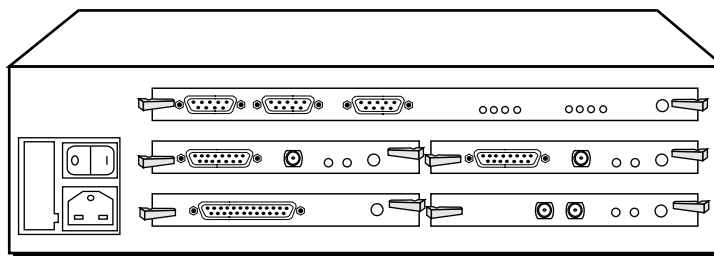

Figure 2-4 HSS G.703 Module Board Installed
- 3 Check that the connector/LED panel of the newly inserted module is flush with the NETBuilder II chassis, and is aligned with the connector/LED panel(s) of any other installed module(s) to verify that the board is seated correctly (see Figure 2-4).